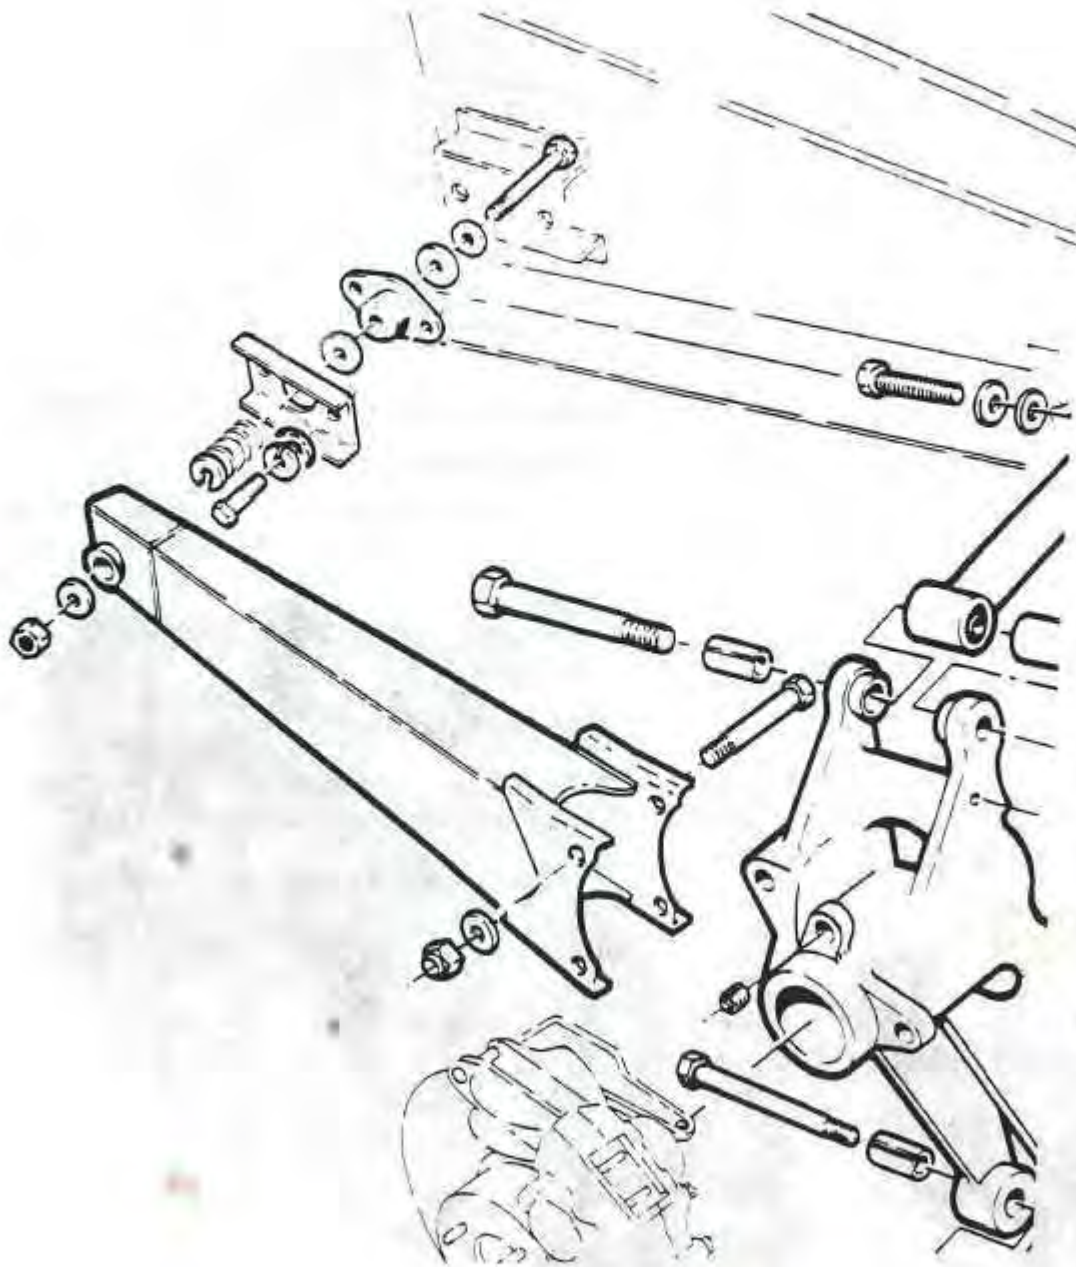

Fig. 8
8. Remove two (2) nuts and bolts, securing trailing arm to hub carrier and disconnect trailing arm from hub carrier.
9. Remove trailing arm pivot bolt and nut. Remove trailing arm from car. Inspect trailing arm bushing for damage and replace if necessary. *Fig. 8*